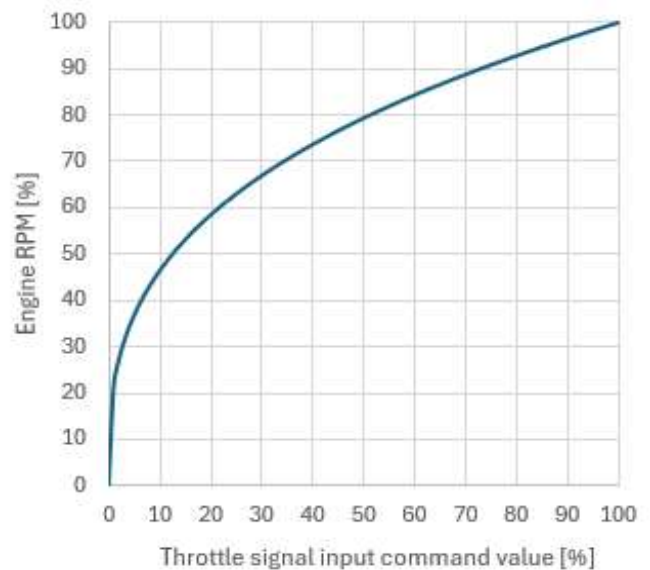

Fig.8.1
- In case the idling rpm doesn't decrease to the value you set in the process ⑤, even if temperature of the engine goes over 100°C, reduce the value by -5μs each time until the rpm decreases.
③Throttle full open position [μs]
④Throttle start position[%]
⑤ Idling speed[rpm]
⑥ Max Speed[rpm]
• Engine's maximum RPM needs to be set depending on the propeller you use. Because of the generator voltage limit, the maximum RPM for the engine is 8,000 RPM. Set the maximum RPM at 8,000RPM, and start the engine with the propeller you will be using and measure the maximum RPM. Input the maximum rpm to ECU. The ECU will regard this RPM as 100% and control the throttle so that RPM(thrust) corresponds to the % value(indicated value) of the throttle signal input. In other words, the required RPM (thrust) is maintained by opening the throttle to compensate for the drop in RPM caused by power load (power generation). The relation between throttle signal and RPM is calculated based on the theory that work by a propeller is proportional to the cube of its RPM.(Refer to Fig. 8.1)